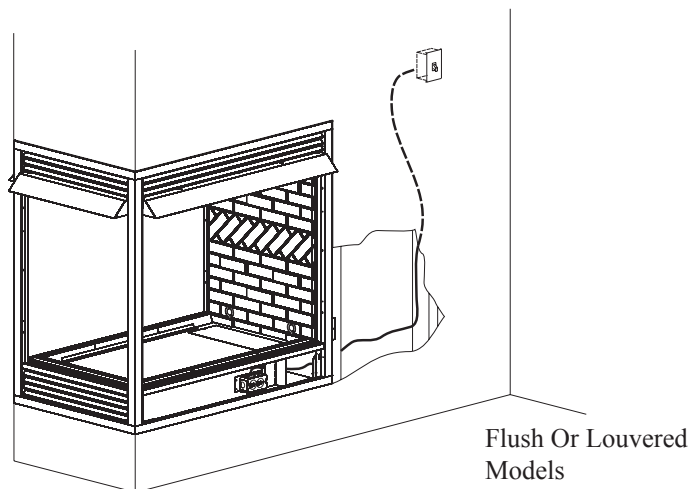

Figure 13
To install the blower kit, access the junction box, or install a light kit, remove the access cover plate and/or lower louvers or flush panels as illustrated by figures 13 and 14.
3. Determine which type of firebox you have prior to installation. **See Figures 13 and 14.**
13. Replace blower access plate and louvers or flush panels. **See Figures 13 and 14.**